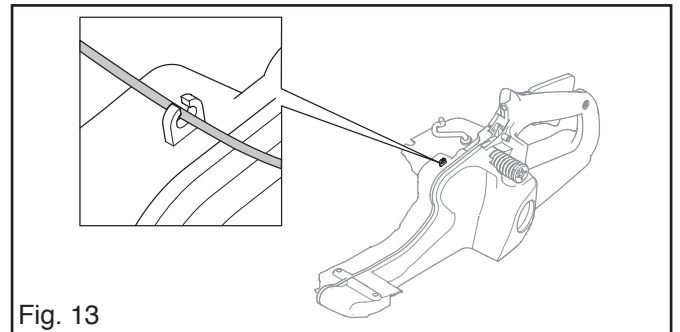

Fig. 13
7. Loosen the cable fastening on the tank. See fig. 13.